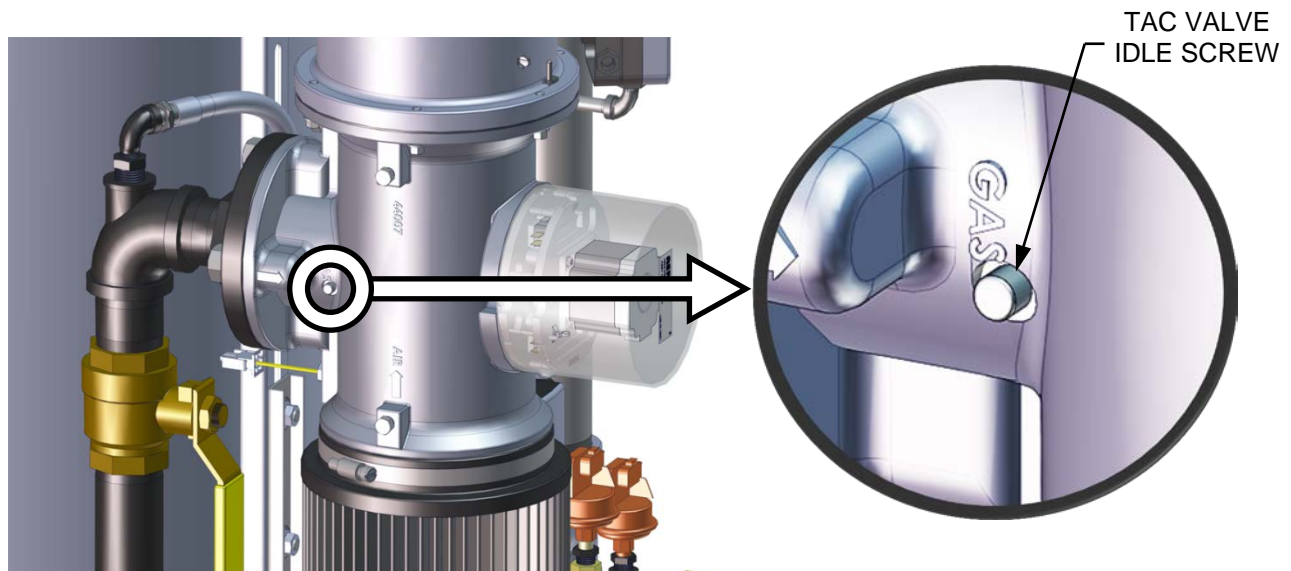

Figure 4-4: TAC Valve Adjust (Idle Screw)
29. If the oxygen level at the 18% valve position is too high and the Blower voltage is at the minimum value, you can adjust the idle screw (TAC valve) which is recessed in the top of the Air/Fuel Valve (see Figure 4-4, below). Rotate the screw 1/2 turn clockwise (CW) to add fuel and reduce the O₂ to the specified level. Recalibration **MUST** be performed again from 50% down to 18% after making a change to the idle screw (TAC valve).